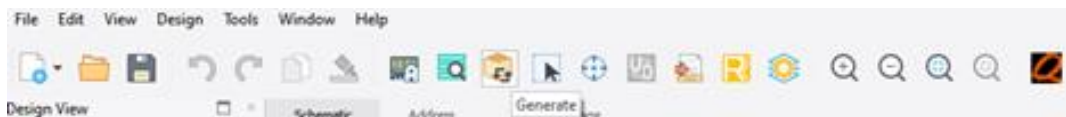

Figure 9.5. Generate Again if any IP is Updated
6. Click the **Generate** button as shown in Figure 9.5. Ensure that there are no errors.